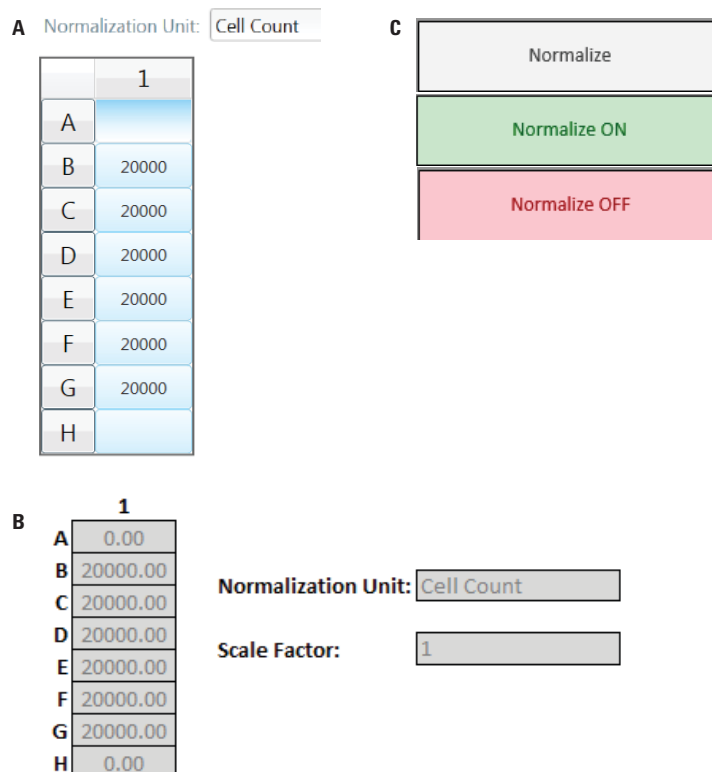

Figure 5 A) Example of a normalization plate map for the Agilent Seahorse XFp Analyzer in Wave 2.3.
It is highly recommended to analyze rate data that has been normalized to a cellular or mitochondrial parameter compared to nonnormalized, raw rate data. Normalization data must be added to the Normalize view in Wave 2.3 (Figure 5-A) before export. Normalized rate data will be used for parameter calculations and displayed by default in all kinetic graphs and bar charts in the Report Generator. Click the Normalize tab to view the normalization plate map, unit, and scale factor as entered in Wave 2.3 (Figure 5-B). Use the Normalize button on the Summary Printout page to toggle the data displayed on each chart between normalized and nonnormalized rate data (Figure 5-C).
B) The same normalization plate map from Wave 2.3 (Figure 5-A) displayed in the Report Generator.